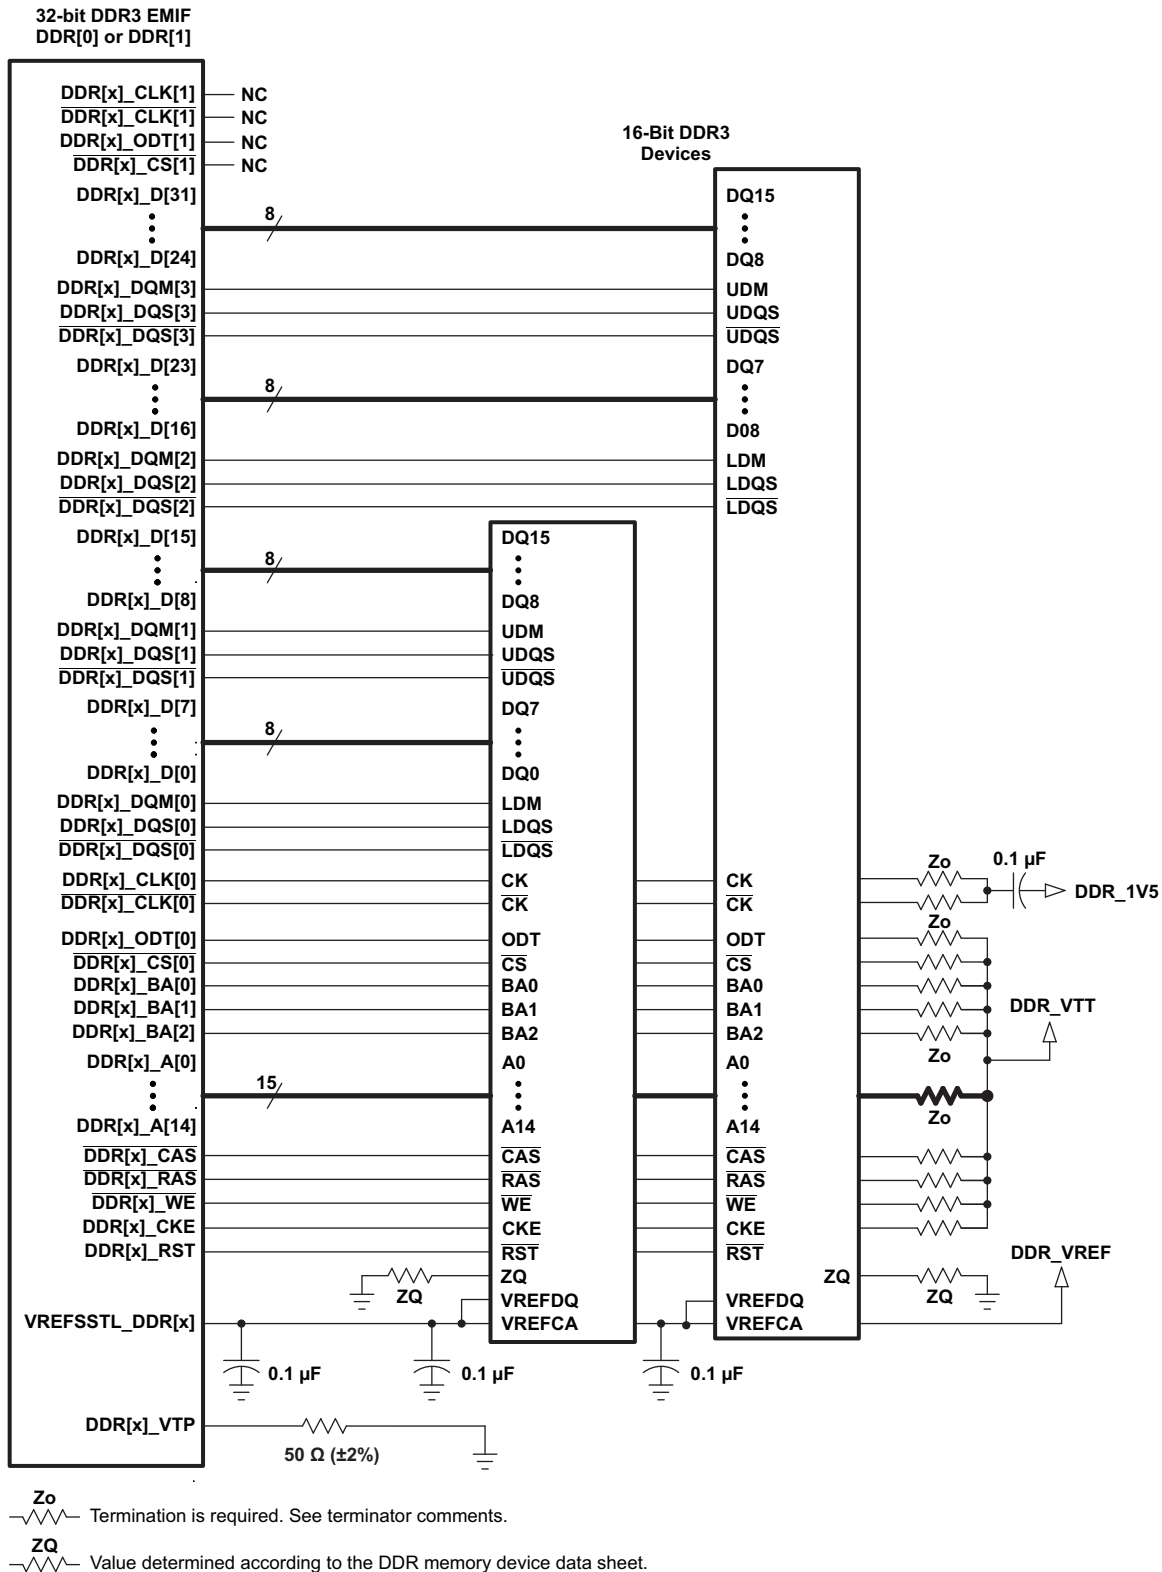

Figure 9-13. 32-Bit, One-Bank DDR3 Interface Schematic Using Two 16-Bit DDR3 Devices
The DDR3 interface schematic varies, depending upon the width of the DDR3 devices used and the width of the bus used (16 or 32 bits). General connectivity is straightforward and very similar. 16-bit DDR devices look like two 8-bit devices. Figure 9-13 and Figure 9-14 show the schematic connections for 32-bit interfaces using x16 devices.
Note that the 16-bit wide interface schematic is practically identical to the 32-bit interface (see Figure 9-13 and Figure 9-14); only the high-word DDR memories are removed and the unused DQS inputs are tied off. The processor DDR[x]_DQS[2] and DDR[x]_DQS[3] pins should be pulled to the DDR supply via 1-kΩ resistors. Similarly, the $\overline{\text{DDR}}[\text{x}]_{\text{DQS}}[2]$ and $\overline{\text{DDR}}[\text{x}]_{\text{DQS}}[3]$ pins should be pulled to ground via 1-kΩ resistors.
(1) DDR3 speed grade depends on desired clock rate. Data rate is 2x the clock rate. For DDR3-1600, the clock rate is 800 MHz.
(2) For valid DDR3 device configurations and device counts, see Section 9.3.2.3, Figure 9-13, and Figure 9-14.